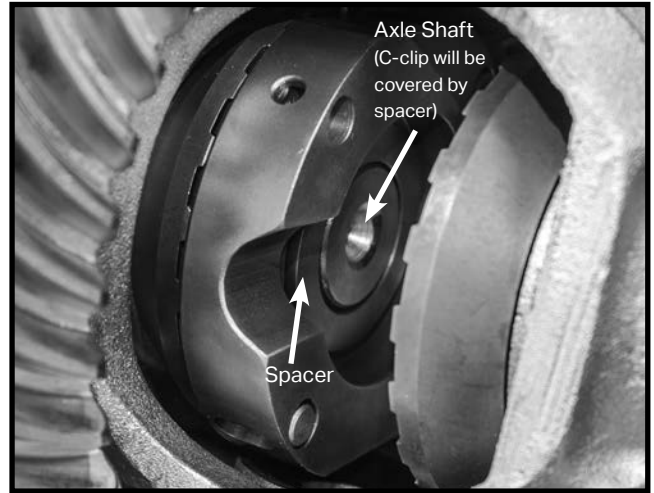

Figure 4: For NON-C-clip axles: Go to SECTION 3 (pg. 14)
4. Pick up one of the driver-and-spacer assemblies. Orient its teeth toward the ring gear flange and hold it so that the flats (if present) will clear the sides of the case. Place it on the teeth of the coupler and press it into the grease (**Figure 4**). Reach into the center and push the spacer down onto the coupler shoulder (and over the C-clip, if so equipped).